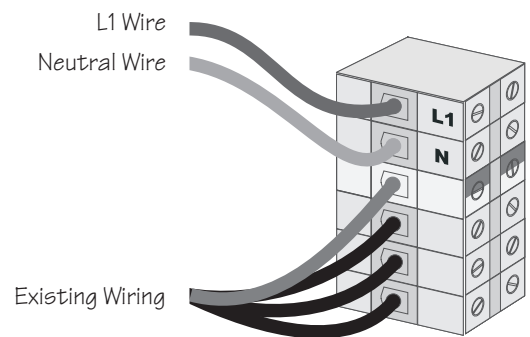

Fig 4-5 Input Hardwiring Connections
8. Connect input wires to the input terminal block connections labeled "L1" and "N" as shown in figure 4-5. Make sure there are no loose strands and that the terminal connection screws are sufficiently tightened.